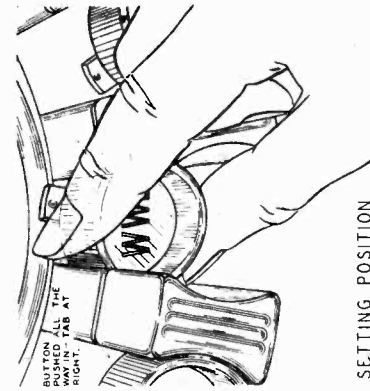

Fig. 15—Button and Tab in Setting Position
- 5 — **IMPORTANT**—The dial must not be turned during steps 4, 5 and 6, otherwise the station will be detuned. Hold the tuning knob with the hand not used for setting the button, to be sure the dial does not turn and then proceed with the instructions in the next paragraph. After the tab is to the right, the button should be grasped with the thumb and forefinger as shown in Fig. 15. Push the button all the way in to the setting position and turn the button in either direction until it locks into place. A click will be heard and (with the button pushed in) it will be impossible to turn the button further in still, although the dial may be turned. After this click is heard, the button should be slowly released. When released, the buttons may be stiff and may not turn easily.